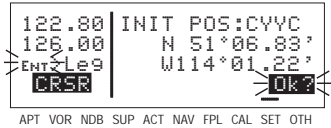

Figure 4-60
- With the right inner knob, position the cursor over **Ok?**, if it is not already there (figure 4-60).